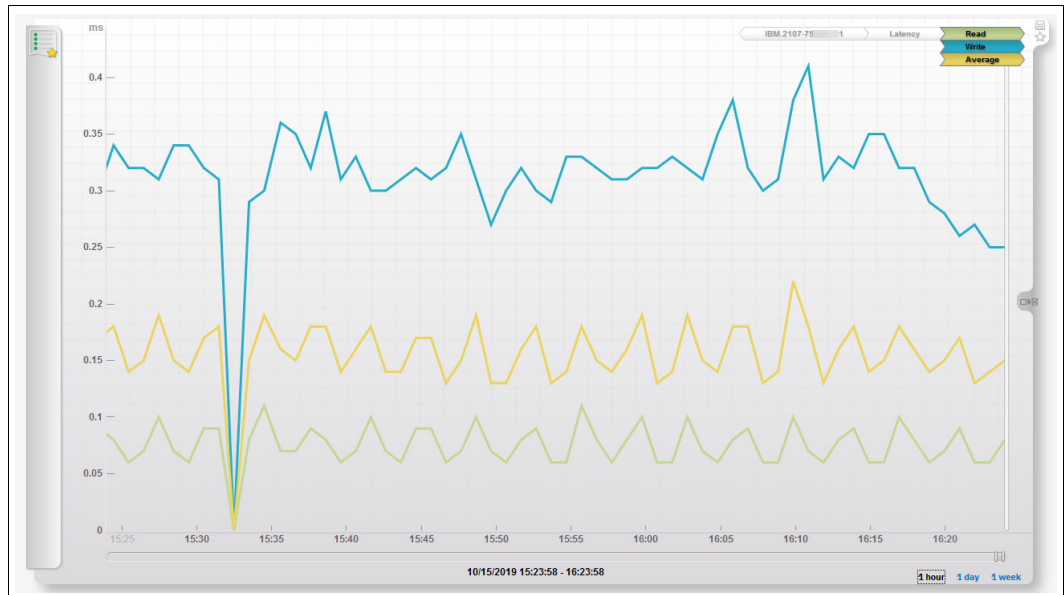

Figure 9-123 System performance graph
4. Draw the graph, which is shown in Figure 9-123.